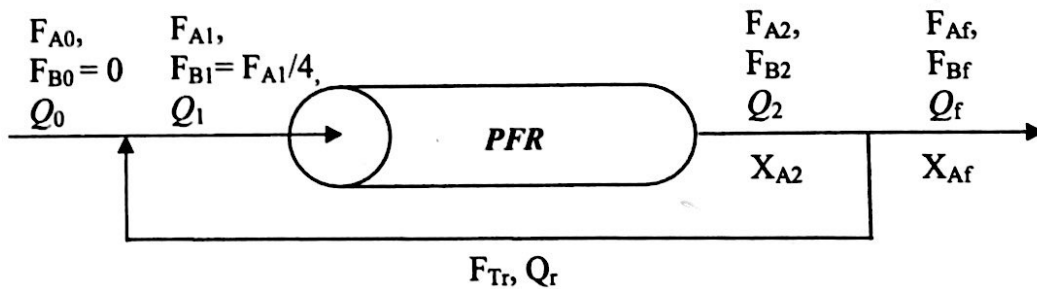

Figure 2a. Steady Process for PFR with recycle.
Figure 2a. illustrates an isothermal and isobaric (constant T, P) PFR reactor with a recycle. In the figure, Q = total volumetric flow rate of stream, F_i = molar flow rate of species i and ρ = total molar density of stream. Only A and B flow through the entire system. As $\rho_A = \rho_B = \rho$, the molar density of the fluid at any point remains as a constant, ρ throughout the entire system.
- (d) [10] A modification to the reactor is suggested in which a membrane is installed into the PFR that selectively removes all the B from the reactor as soon as it is produced (see Figure 2b. below). Which setup – that proposed in Figure 2a. or 2b. is a better design to increase the overall conversion of A for this particular reaction, i.e., is X'_{Af} greater or lower than X'_{Af} ? Explain your reasoning.